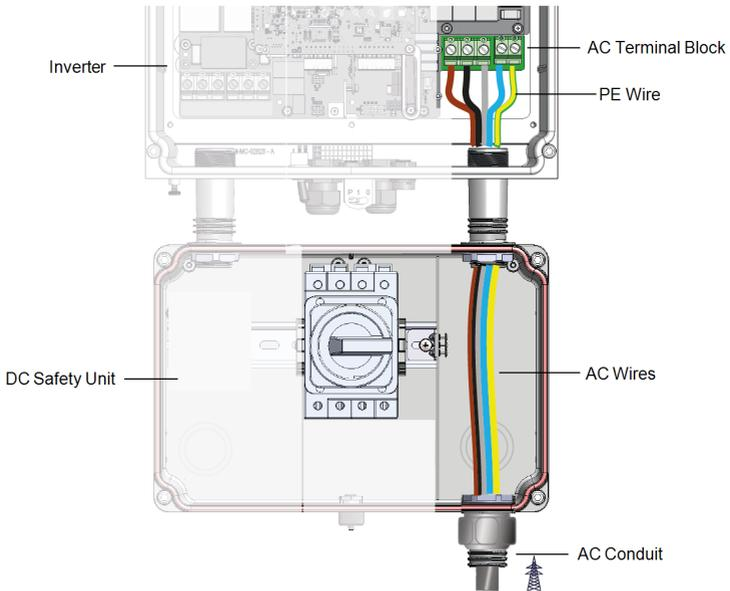

Figure 16: AC cable route inside the DC Safety Unit and inverter
6. Route the AC wires through the conduit into the DC Safety Unit and towards the AC Terminal Block inside the inverter (see *Figure 16*).